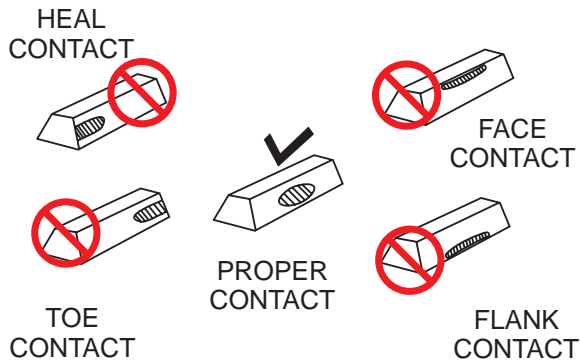

Figure 34. Gear Teeth Alignment
- If gear teeth are not contacting properly (Figure 34), adjust pillow block to correct the problem.